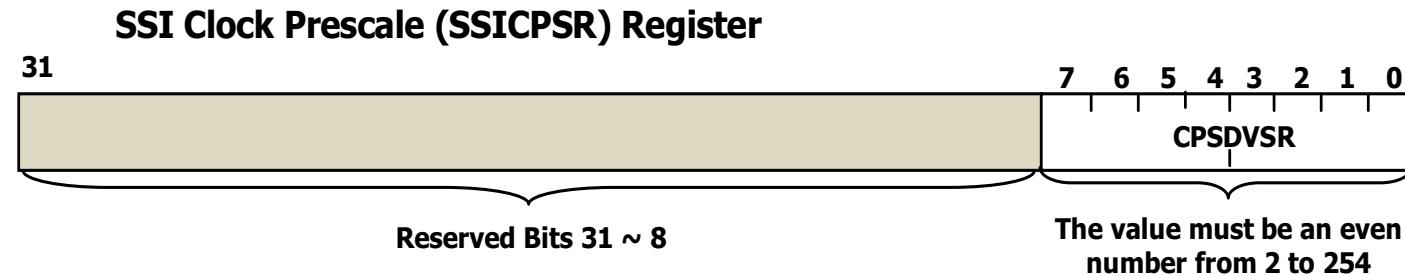

Figure 8.10 The bit field and functions of the SSICPSR Register.
- Figure 8.10 shows the bit field and functions of the **SSI Clock Prescale (SSICPSR)** Register. The lowest 8 bits or bit field **CPSDVSR** provides a divider to divide the input system clock source to get the desired serial output clock with an appropriate frequency. This value must be an even number ranged from **2 to 254**.